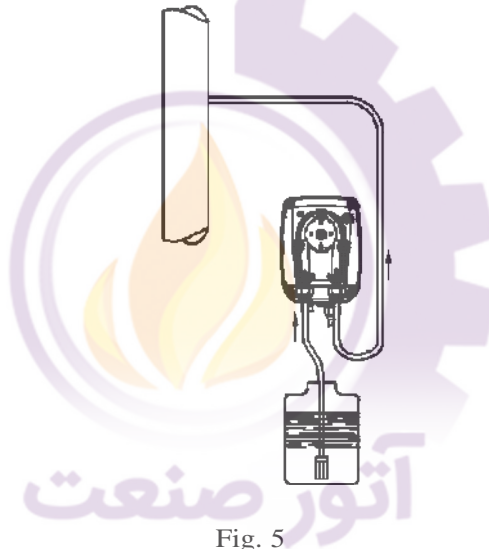

Fig. 5
- c. - Locate the pump as shown in fig. 5 bearing in mind that it may be installed either below or above the level of the liquid to be dosed, though the level difference should not exceed 2 meters. In case of liquids that generate aggressive vapors, **don't** install the pump above the storage tank unless the latter is hermetically sealed.